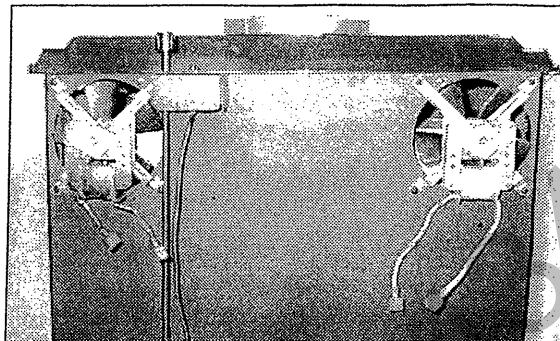

Figure 18
2. Install each fan in the openings in the backshield with the screws from the cover plates. Install with the motor windings to the bottom. See Figure 18.